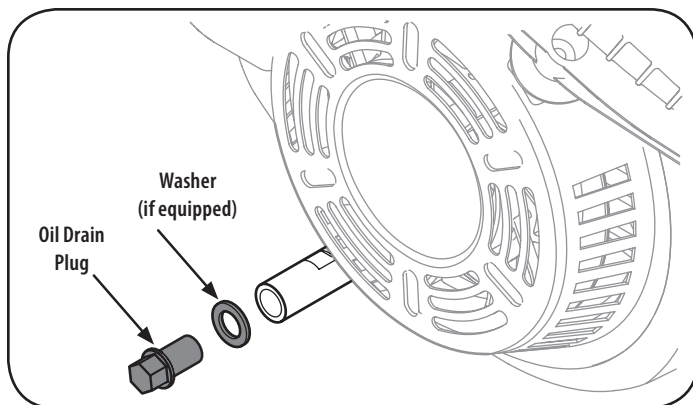

Figure 54
3. Remove oil drain plug and washer (if equipped). See Figure 54.